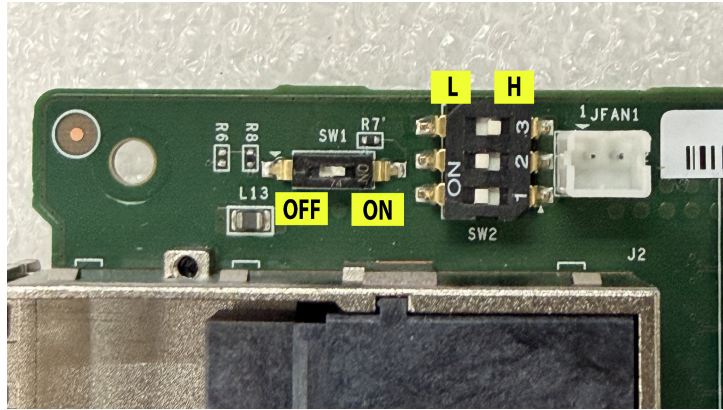

Figure 109. Host Adapter (C01) DIP Switch Settings for Firmware Update at Falcon side
- C01 DIP switch settings must be configured as follows (see Figure 109):